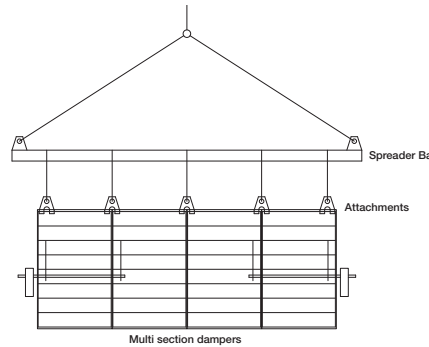

Figure 1- Supports for lifting a multi-section damper
- 2) Lift or handle damper using sleeve or frame. Do not lift damper using blades or linkage. When handling multiple section assemblies, use sufficient support to evenly lift at each section mullion (see **Figure 1**). Do not drag, step on, apply excessive bending, twisting, or racking.